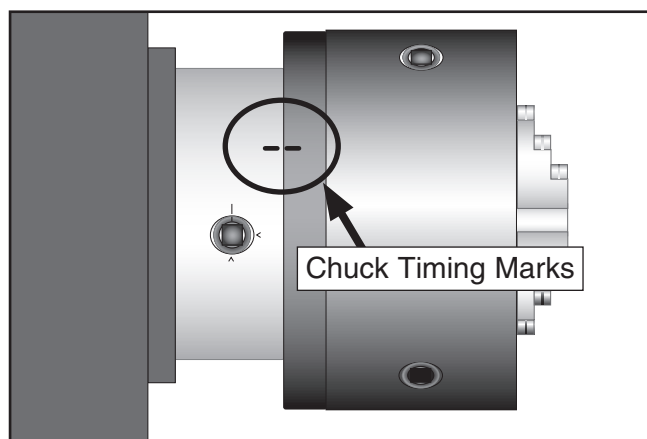

Figure 29. Chuck timing marks.
6. If equipped, align the chuck-to-spindle timing marks (Figure 29), and slide the chuck onto the spindle.